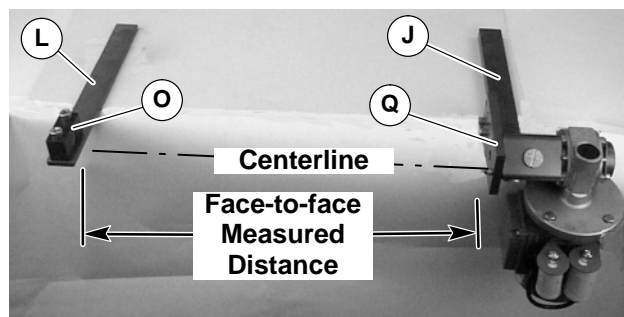

Figure 7
**NOTE:** Mounting holes are not provided. Ensure that gearmotor assembly (J of Figure 7) and bearing support assembly (L) are parallel and center-line of coupling matches center-line of bearing block (O).
7. Attach gearmotor assembly (J of Figure 7) and bearing support assembly (L) to mounting surface.